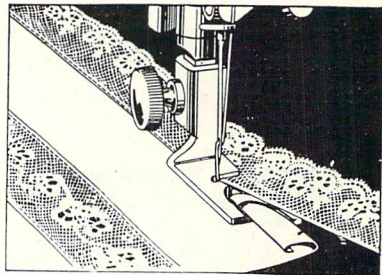

*Fig. 43. Making a Felled Seam
2. Open work out flat, wrong side up, and hem free edge of seam, stitching it flat to garment as shown in **Fig. 43**.